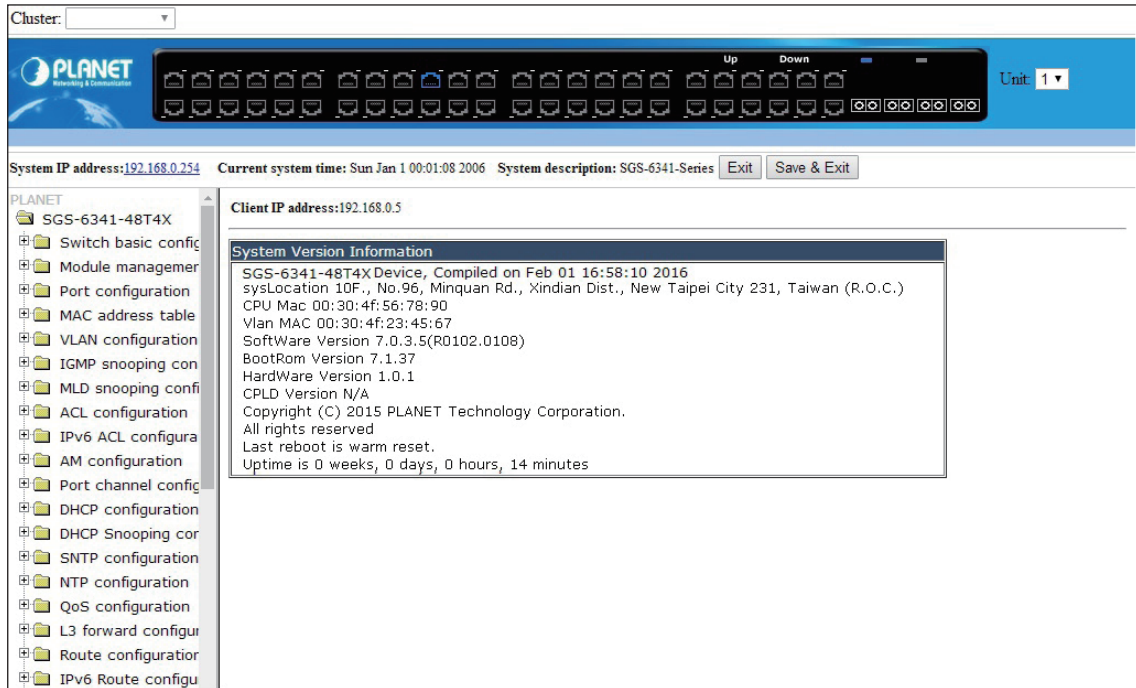

Figure 5-6: Web Main Screen of Managed Switch
3. After entering the password, the main screen appears as shown in Figure 5-6.